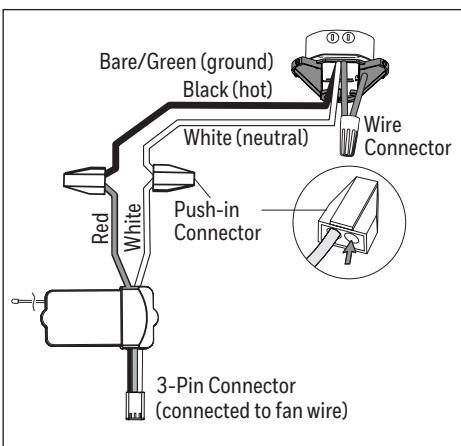

Figure 5.1
1. Use wire connectors and push-in connectors to connect the receiver and fan wires to the supply wires from outlet box according to the wiring diagram and the following instructions (Figure 5.1):